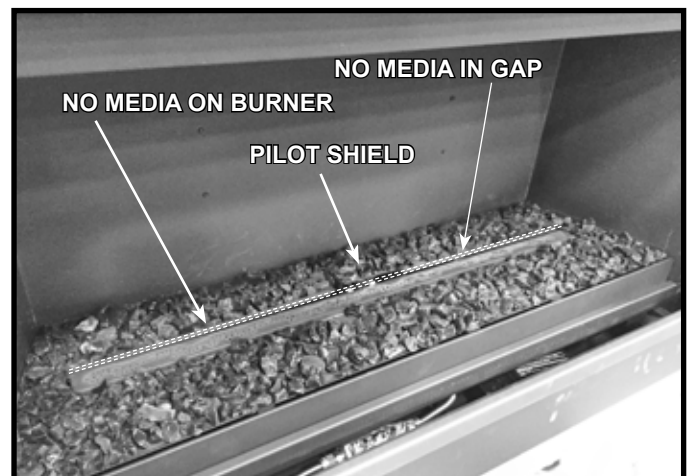

Figure 11.1 Media Placement
1. Place an even layer of glass media around the base-pan. Do not place glass media in the gap behind the burner or on the top surface of the burner. See Figure 11.1. This may cause lighting issues, undesirable burner flame, or delayed ignition.
2. The glass assembly has two upper spring latches and two lower spring latches. See Figure 11.1. Locate the two spring latches that are on the upper left and right of the fireplace.